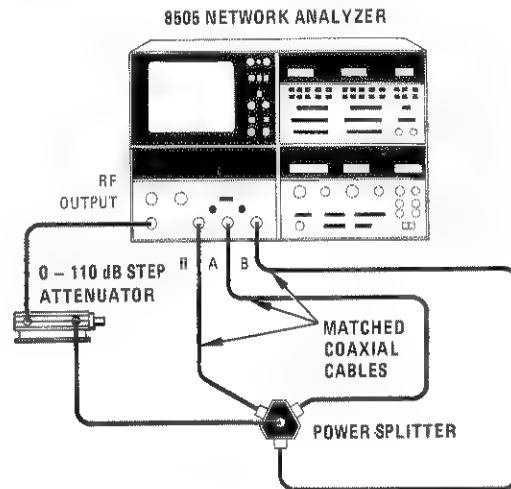

Figure A2-17. Phase Dynamic Range Test Setup
- b. Connect equipment as shown in Figure A2-17.